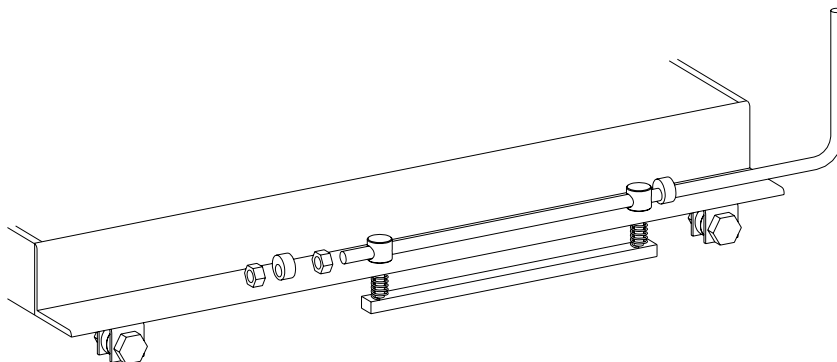

Figure 12
31. Lower the tracks to the ground. Position the two tracks according to the dimensions shown in Figure 12, Track Positioning. Make sure that the tracks, crossrails, and